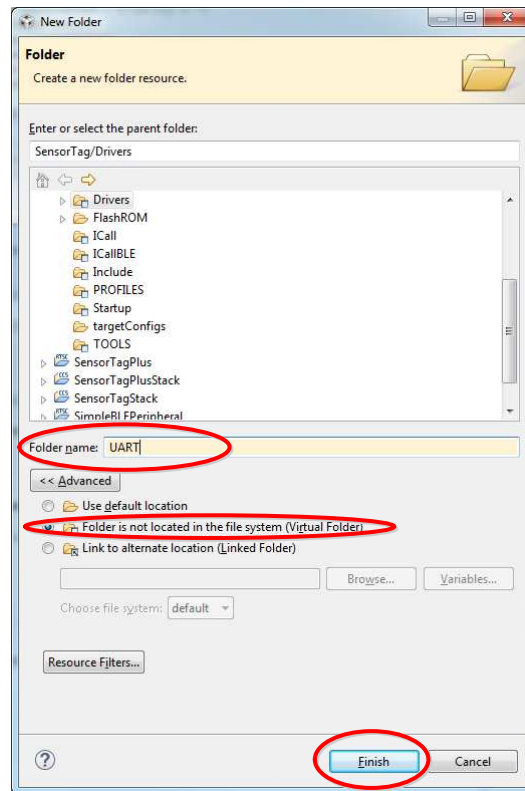

Figure 10. Create Virtual Folder 2
8. Click the “Advanced >>” button, enable the radio option for “Folder is not located in the file system (Virtual Folder)”, type "UART" into the Folder name field, and then click the “Finish” button (see Figure 10)